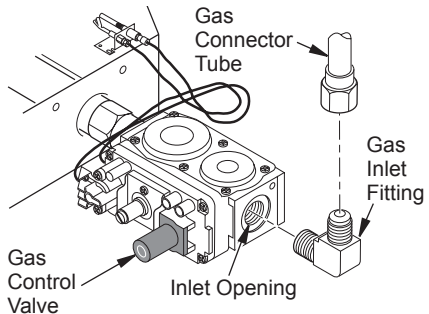

Figure 6 - Installing Inlet Fitting and Gas Connector Tube (Valve Cover Removed for Clarity)
3. Install the gas connector tube to the gas supply adapter. Carefully shape tube and attach to gas inlet fitting (see Figure 6). Be careful not to cause kinks in tube.